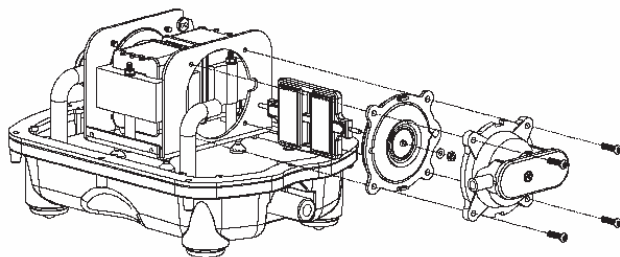

FIG. 3
2. Loosen the four screws and disassemble the parts. (As shown in figure 3)